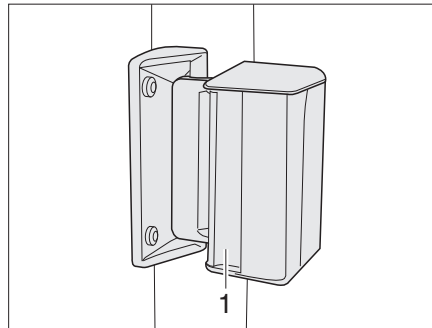

Fig. 16 Sliding window
- Press the handle (Fig. 16,1) and push or pull it forwards or backwards at the same time.